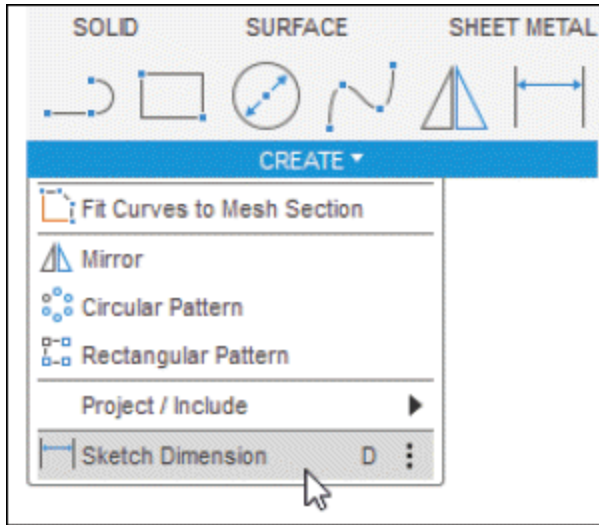

Figure-64. Sketch Dimension tool
- Click on the **Sketch Dimension** tool of **CREATE** drop-down from **Toolbar**; refer to Figure-64.